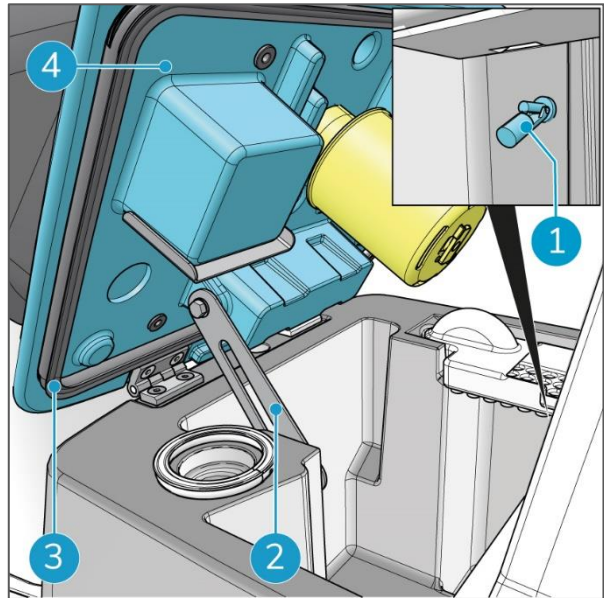

Figure 53
3. Open the lid of the recovery tank (Figure 53, pos 4).
4. Check the rubber seal (Figure 53, pos 3), if it is polluted, clean it with a damp cloth.
10. When the recovery tank is empty, hose down the tank with water (Figure 53).
11. Clean the underside of the lid with water (Figure 53).
12. Clean the float switch (Figure 53, pos 1) with water to avoid that it sticks.
5. Unlock the safety hook (Figure 53, pos 2) and close the lid of the recovery tank